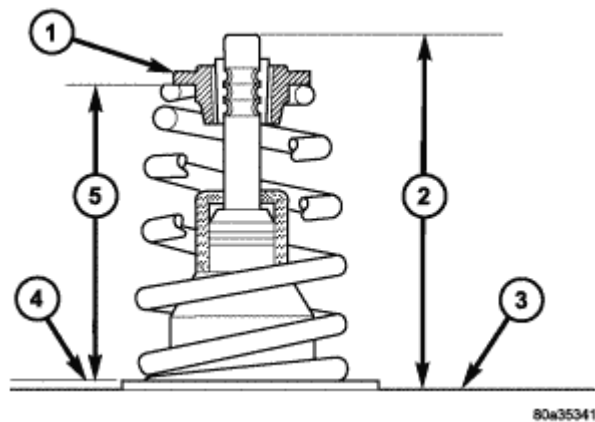

Fig. 107: Identifying Valve Spring Height
4. Slowly release the spring tension. Ensure the retainer locks are seated properly. See **Fig. 107**.